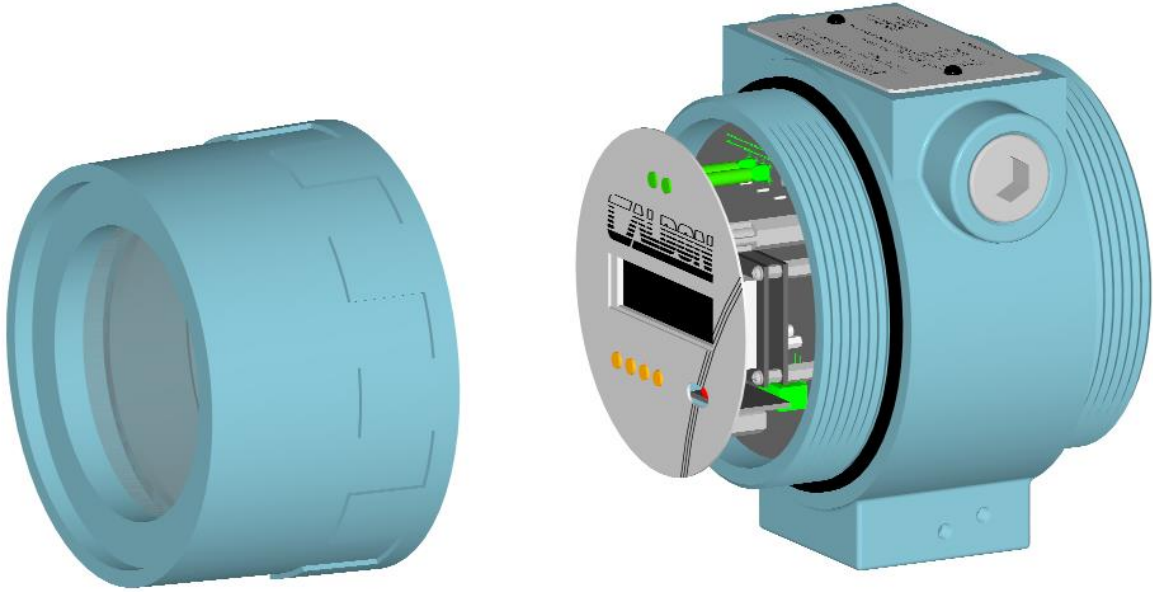

Figure 8.4: Front Cover Removal (Installation)
2. Unscrew and remove the lid from the display end of the enclosure (Figure 8.4).